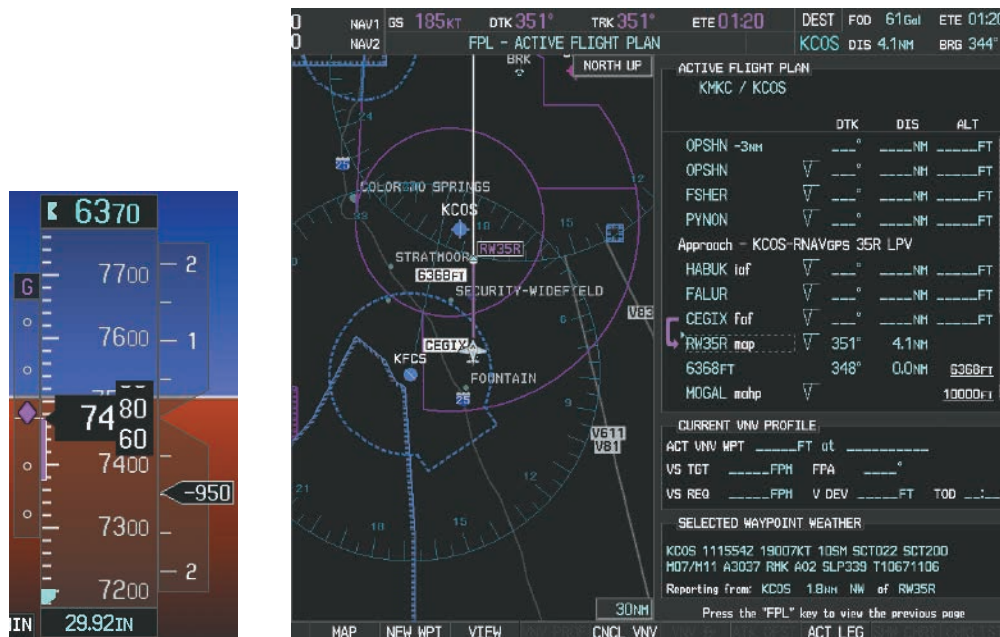

Figure 5-149 Descending to the Missed Approach Point
- 24) After crossing CEGIX, the aircraft continues following the glidepath to maintain the descent to “AT or ABOVE” 6,370 feet at the Missed Approach Point (MAP) (RW35R) as seen in Figure 5-149.